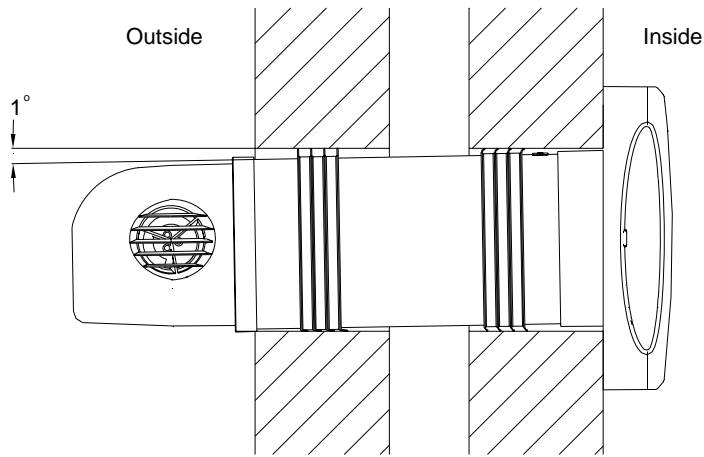

Fig.4
3. Cut the mounting hole to a diameter of 152mm (6") using a core drill. Ensure that there is a slight fall on the hole, from inside to outside (Fig. 4).